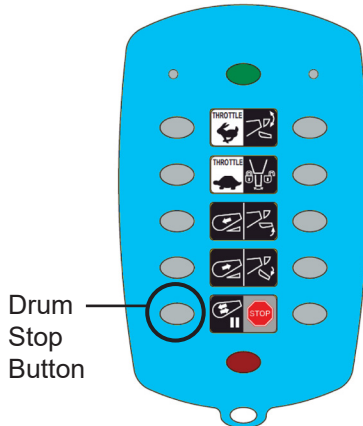

Figure 41
- To turn OFF Drum Stop Indicator on the OMNEX Wireless Transmitter, push the drum start/stop button as required (Figure 41).